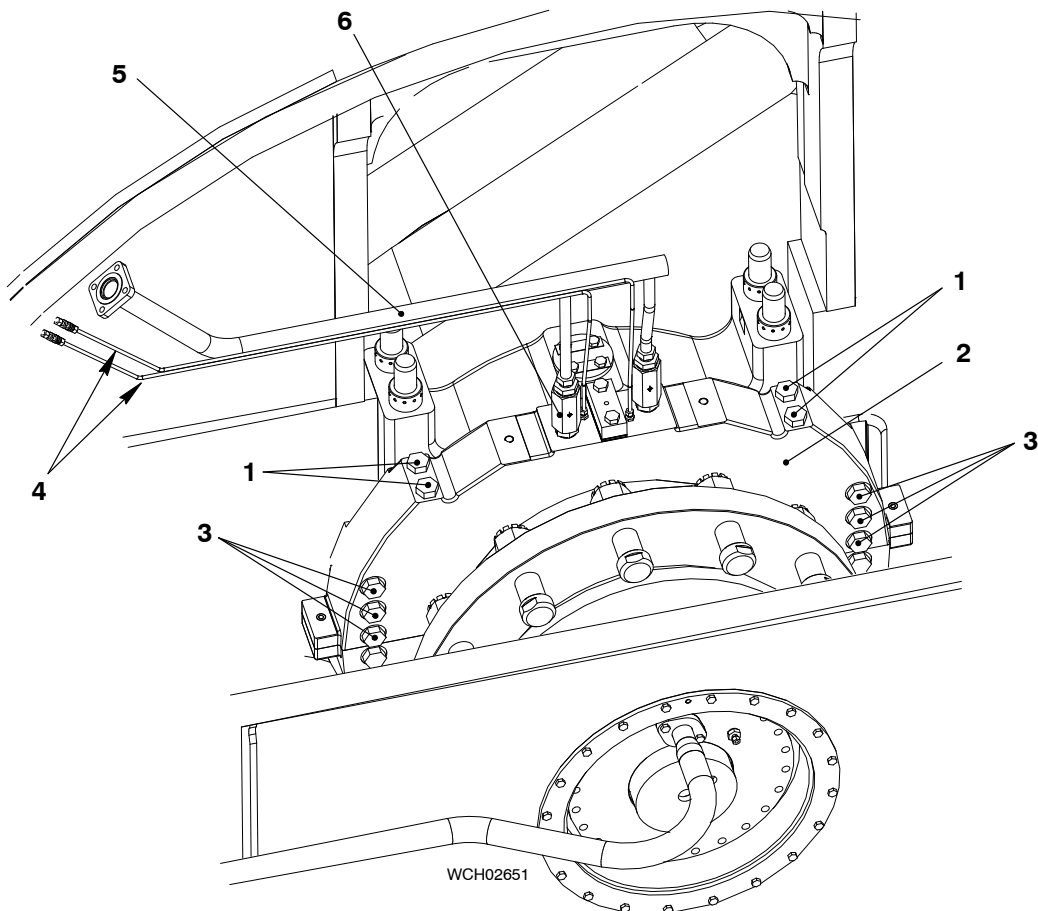

Fig. 5
- 8) Install the four M30 bolts (1, Fig. 5). Refer to 0352 2, paragraph 1 for the applicable torque value.
- 9) Apply Molykote paste to the threads of the six bolts (3).
- 10) Torque the six M30 bolts (3) to 900 Nm (40°).
- 11) Attach the two pipes (4) to the top cylinder (2).
- 12) Attach the oil inlet pipe (5) and the two non-return valves (6).